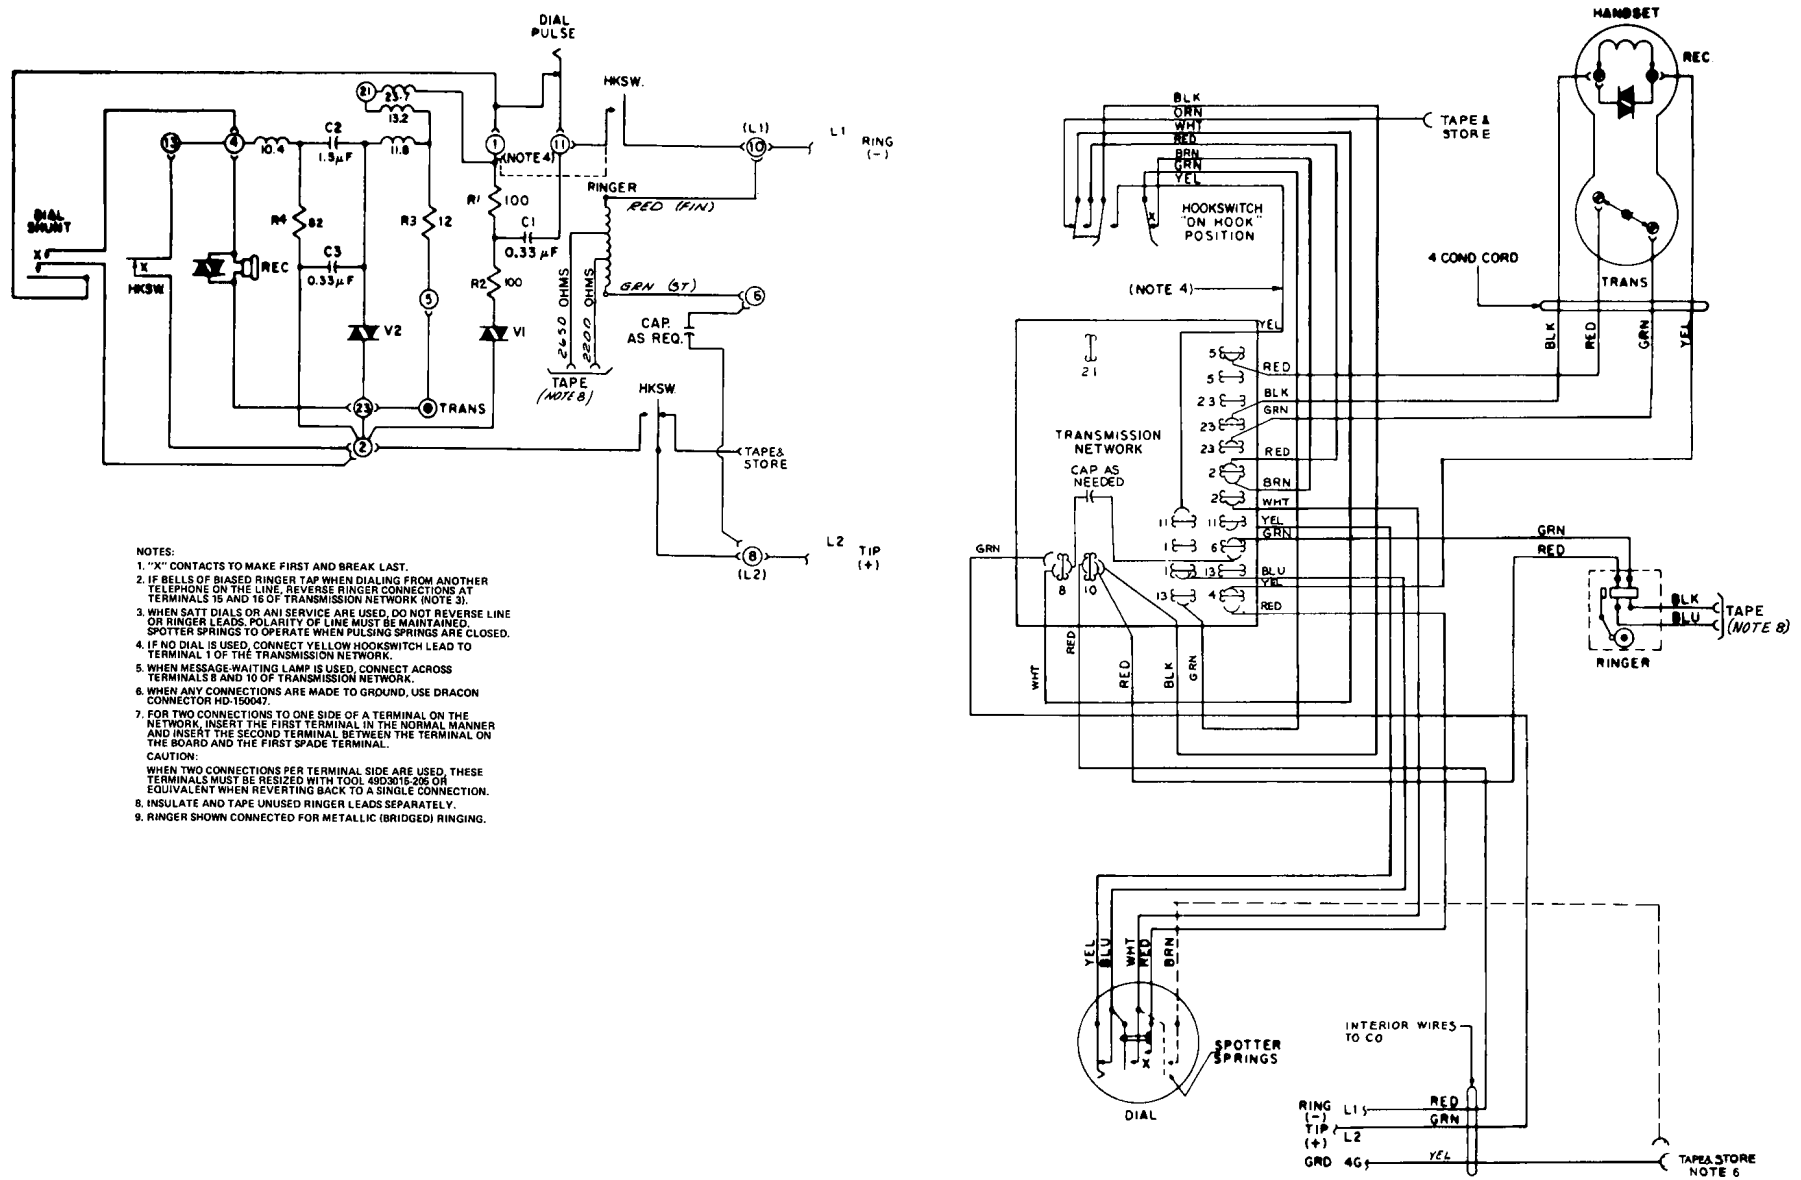

Figure 1. Schematic and Wiring Diagram for Type 183 Telephone Equipped With HB-1055-A Transmission Network.
2.01 The wiring diagram for Type 183 telephones equipped with self-compensating mounted transmission networks and modified for key system operation is shown in Figure 1. To modify these telephones for key system operation, perform the following procedure:
- (1) Red to terminal 10 (L1).
- (2) Green to terminal 8 (L2).
- (3) Yellow to red hookswitch lead (A1) (refer to Note 6 in Figure 1).
- (4) Black to white hookswitch lead (A) (refer to Note 6 in Figure 1).